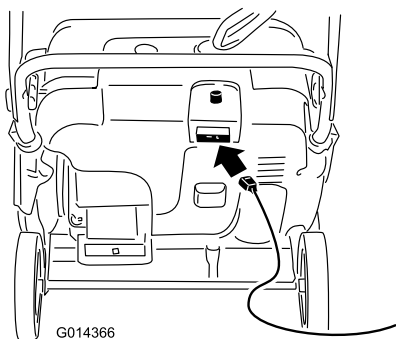
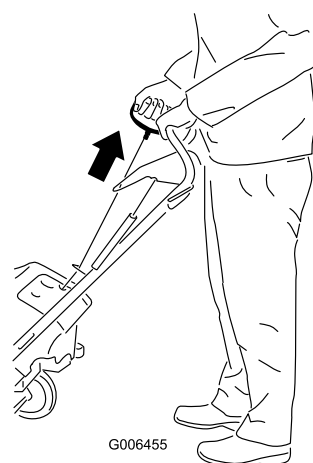

Figure 17
Figure 18
4. Connect an extension cord to a power source and the machine, and push the electric-start button (model 38454 only) (Figure 17), or pull the recoil start handle (Figure 18).